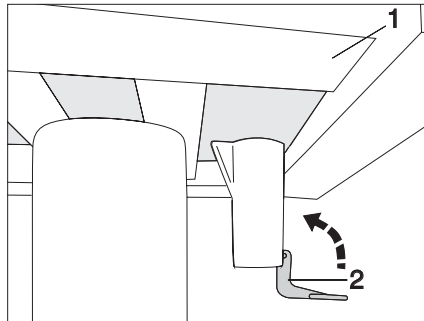

Fig. 68 Lock single-column table (unlocked)
- ▶ Press the locking lever (Fig. 68,2) back upwards.